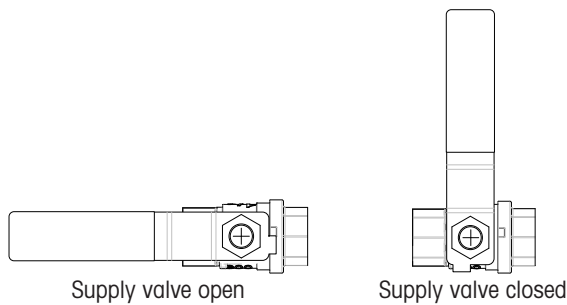

Figure 46: Supply Valve Operation
3. **Ensure** TIREMAAX supply valve is in open position (Figure 46).